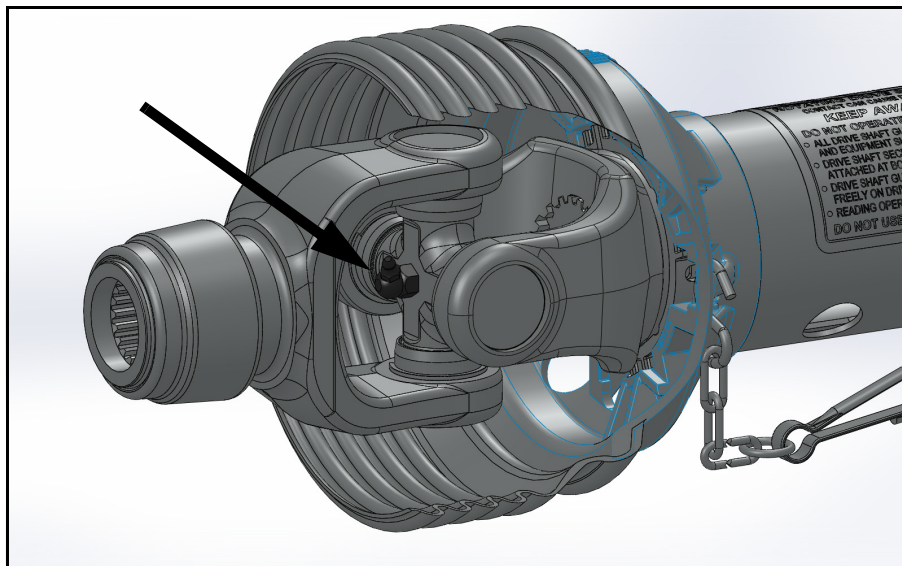

Figure 5.2 PTO Universal Joint
1. Lubricate the 2 universal joints on the PTO (one at each end of the shaft) (see Figure 5.2).